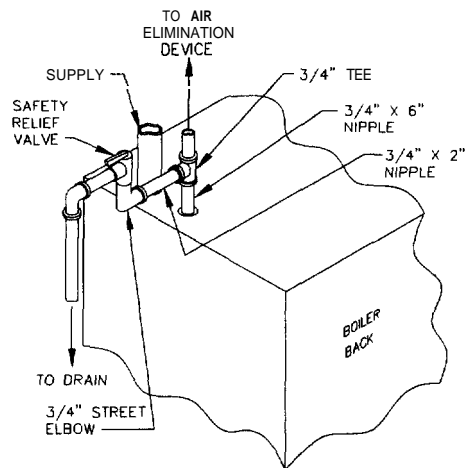

Figure 4: Safety Relief Valve Hook-Up with Air Elimination
3. In air circulation at the safety relief valve, install valve and piping as shown in Figure 4.